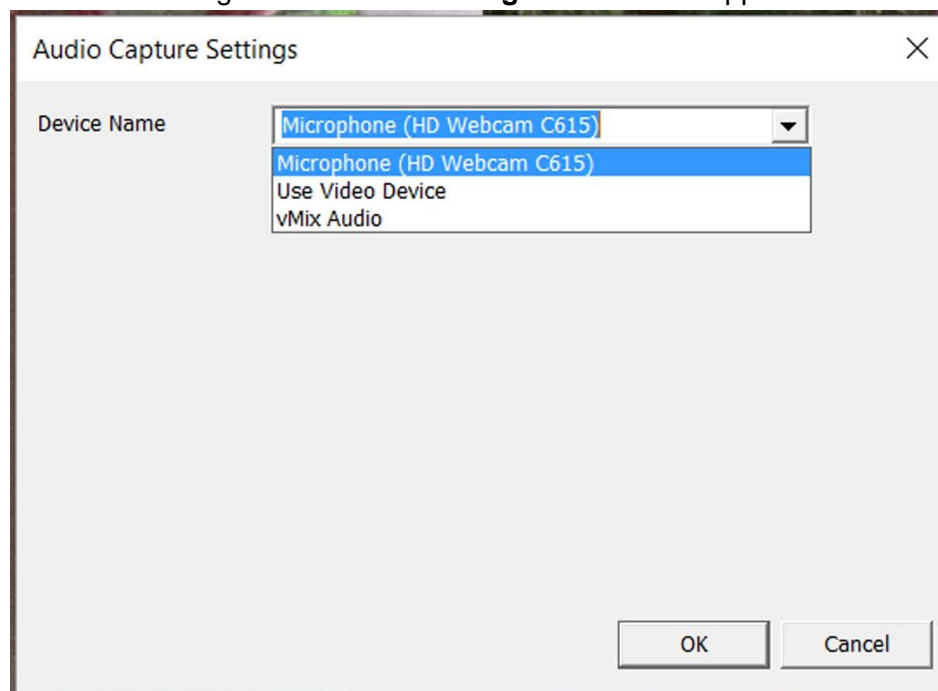

Figure 22 – The AUDIO Capture screen allows you to select the Audio device.
- The AUDIO CAPTURE Settings screen shown in **Figure 22** should appear.